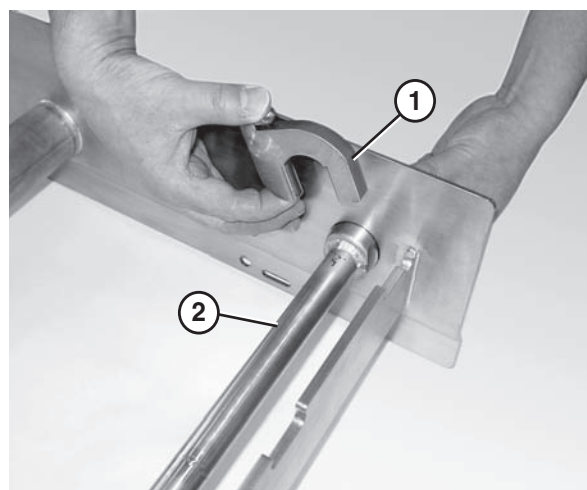

Figure 18
2. Attach the key stops (Figure 18, item 1) to the tip up shaft (Figure 18, item 2). The rounded end of the key stop should face the tail.